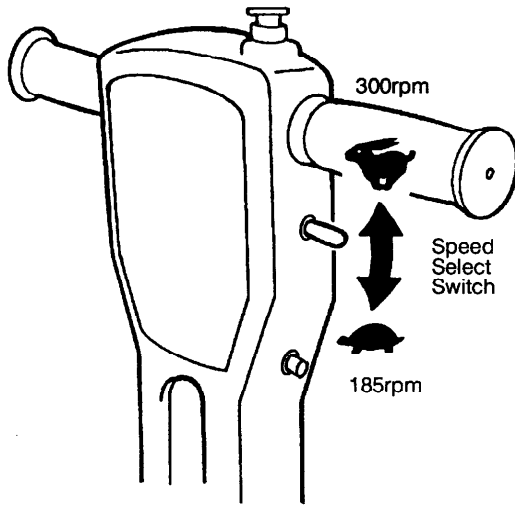

Fig. 3
3. For Dual Speed Models select desired motor speed. Position switch downward (185rpm) for scrubbing/ stripping OR position switch upward (300rpm) for spray buffing (Fig. 3).